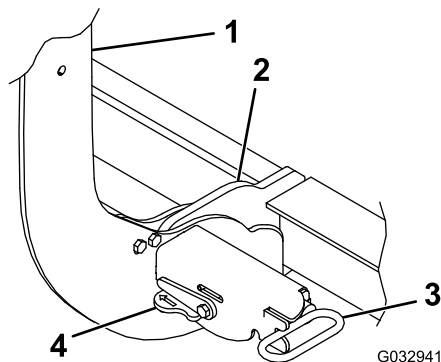

Figure 33
4. Turn the levers on the spring pins to the UNLOCK position (Figure 33).